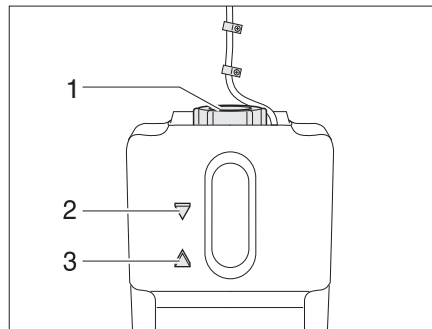

Fig. 359 Compensator reservoir hot-water heater
- Check if the fluid level is between the marks "MIN" (Fig. 359,3) and "MAX" (Fig. 359,2) on the compensator reservoir (Fig. 359).
- Open the rotary lid (Fig. 359,1) on the compensator reservoir.